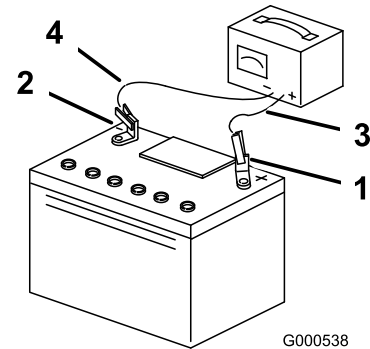

Figure 53
3. When the battery is fully charged, unplug the charger from the electrical outlet, then disconnect the charger leads from the battery posts (Figure 53).